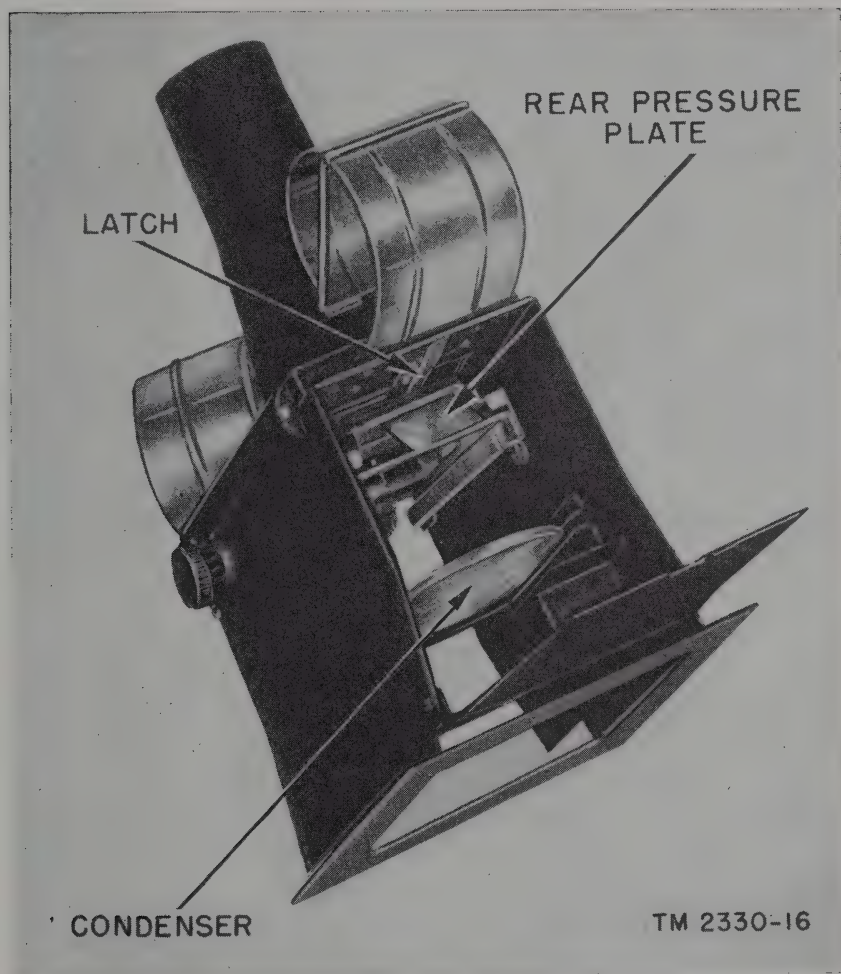

Figure 16. Film strip attachment, with cover open.
Depress the latch and lift the cover of the film strip attachment to the position shown in figure 16. Slide the condenser out of its mounting channels. Clean the condenser by removing all dust and grit with a camel's-hair brush or by blowing air across the condenser with a syringe bulb. Wipe the surfaces with lens tissue. Replace the condenser with the curved surface toward the lamp.
39. Cleaning Rear Pressure Glass (fig. 16)
57. Replacing Rear Pressure Plate (fig. 16)